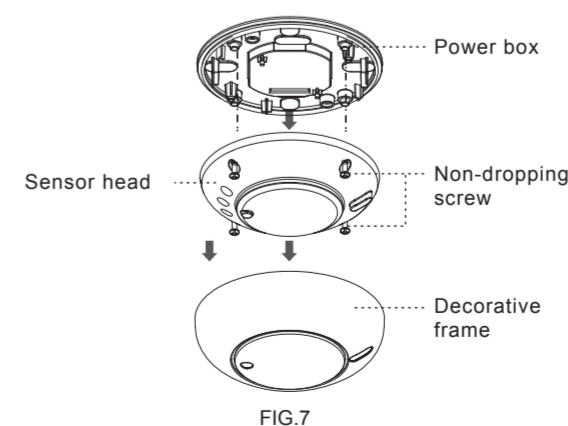

FIG.7
- 4.4.1.1 Take off decorative frame of sensor, then take the sensor head apart from power box by unscrew its 4pcs non-dropping screws (See FIG.7).
- 4.4.1.4 Fix the sensor head on power box by inserting its four non-dropping screws into the corresponding screw holes, then cover up the decorative frame (See FIG.7).